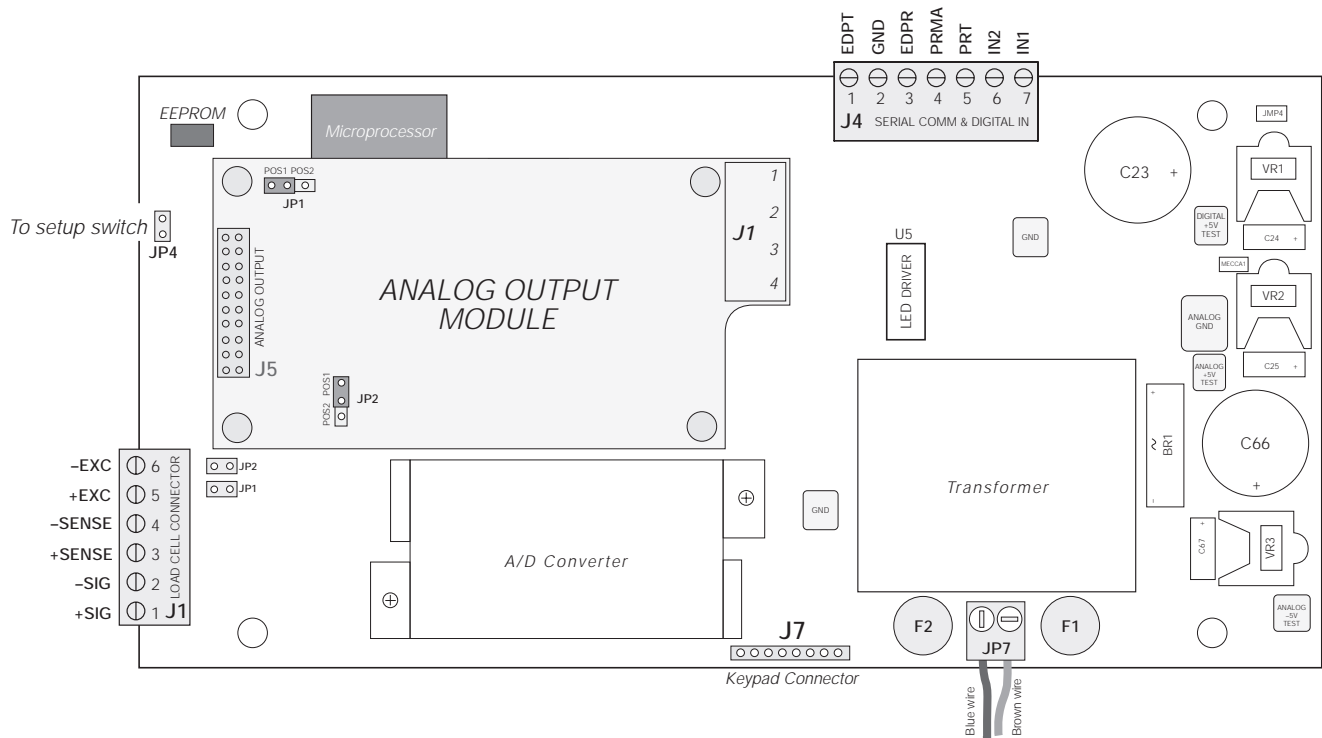

Figure 1. Analog Output Module Installation on IQ plus 355 Board
**NOTE:** Ensure jumpers JP1 and JP2 on analog output board are installed in position 1 (POS1) as shown in Figure 1.
Mount the analog output module on its standoffs in the location shown in Figure 1 and plug the module input into connector J5 on the IQ plus 355 board. Connect output cable to the analog output module as shown in Table 1, then reassemble the enclosure as described on page 2.